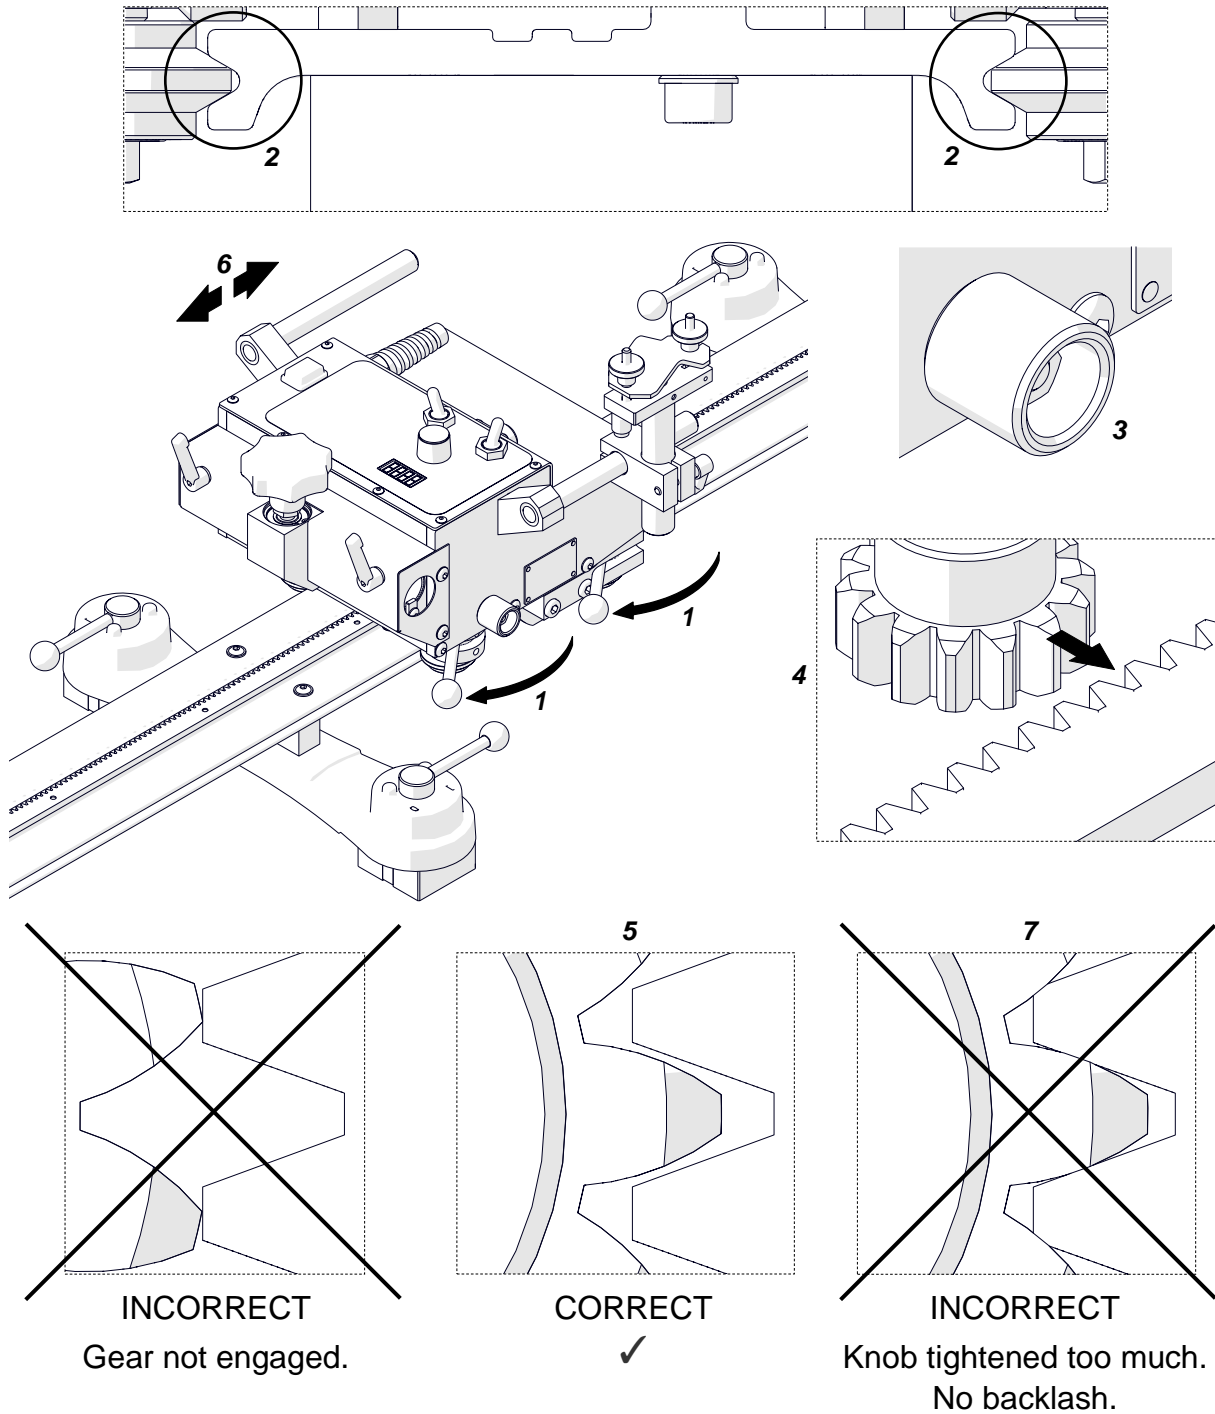

Fig. 7. Installing the carriage on the track
Set the levers to ON (1, Fig. 7) to put the rollers into the grooves (2). Then, tighten the knob (3) to engage the gear of the carriage with the rack of the rail (4). Keep a small backlash between the gear and the rack (5). Move the carriage slightly back and forth (6) to make sure that there is a backlash. Do not tighten the knob with too much force (7).